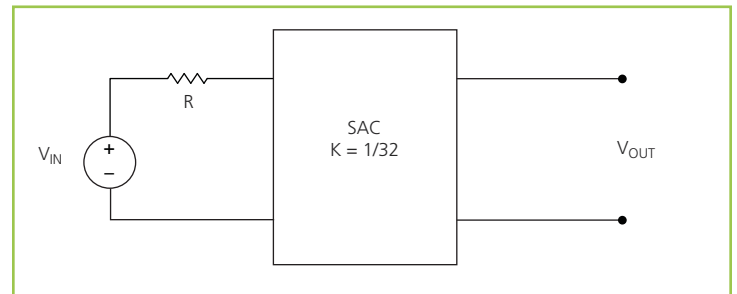

Figure 18 – K = 1/32 Sine Amplitude Converter with series input resistor
$I_Q = 0$ A, Eq. (3) now becomes Eq. (2) and is essentially load independent. A resistor R is now placed in series with V_{IN} as shown in Figure 18.
Assuming that $R = 1 \Omega$, the effective R as seen from the secondary side is $0.98 \text{ m}\Omega$, with $K = 1/32$ as shown in Figure 18.